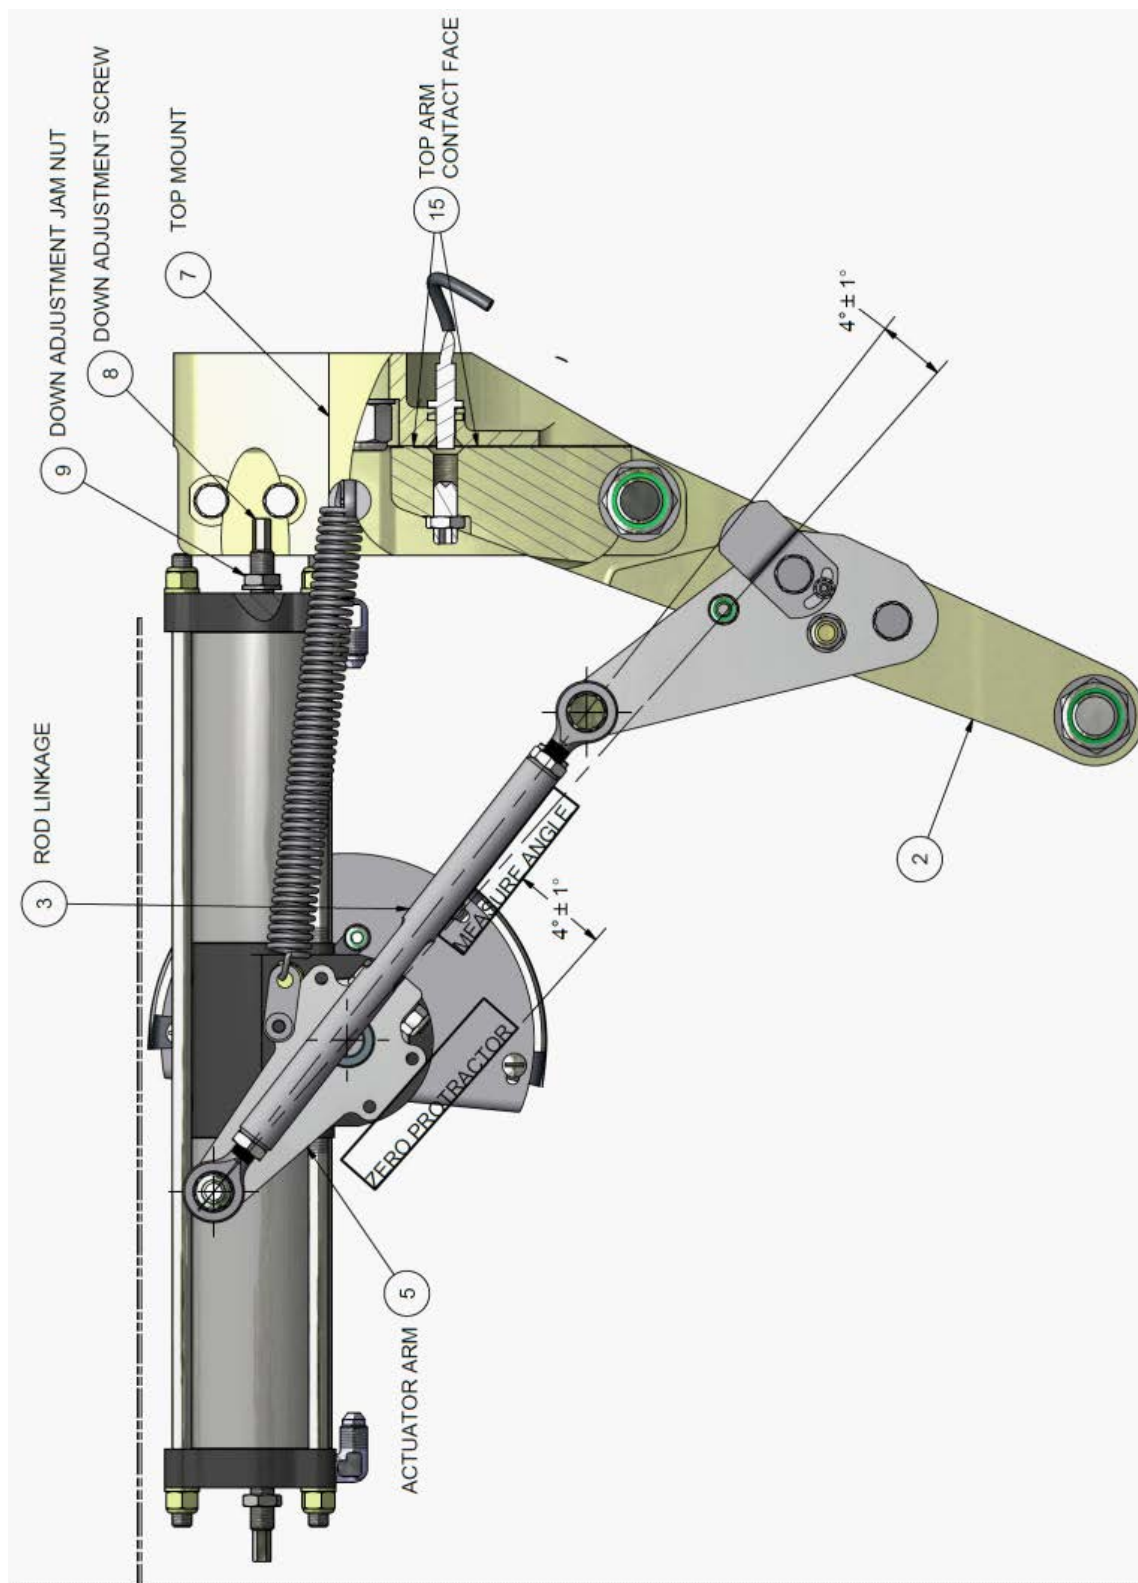

FIGURE 4-4B: MAIN GEAR ADJ. DOWN
23. Zero the protractor. See Figure 4-4B. Then place the protractor on the top or bottom of the rod linkage. The measured angle should be $4^{\circ} \pm 1^{\circ}$. Repeat for the other actuator arm and rod linkage by zeroing the protractor on the other actuator arm and measuring the rod linkage angle.
28. Check the operation of the over center down lock. As the actuator rotates causing the contact faces to touch, the actuator arm should continue to rotate and “snap” past Top Dead Center (TDC). Make sure that there is preload on the linkage rods so that contact faces remain touching past TDC. Push and pull on the Top Arm Assembly (Item 2) to ensure it is locked over center. The Top Arm Assembly needs to be contacting the Top Mount (Item 7) when the gear is extended to properly transfer the landing loads. Ensure Top Arm and Top Mount are making contact by sliding a 3-inch wide piece of paper in (See Figure 4-4B and photo on this page), then moving gear to down and locked position. If paper is tight, gear is rigged correctly. If paper is able to slide out, then the Top Arm and Top Mount are not making proper contact and need further adjustment.
2. Loosen the jam nut on the Gear Down Proximity Switch located on the back of the Main Gear Top Mount. Thread the Gear Down Proximity Switch in or out until the face of the sensor is flush with the face of the Main Gear Top Mount. Reference Figure 4-4B. Tighten the jam nut on the proximity switch to 10 +/- 3 inch-pounds.